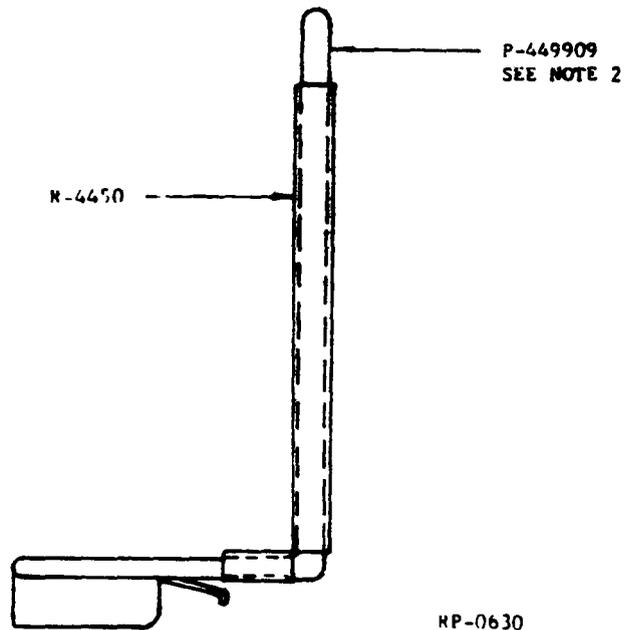

FIG. 7
5.11 When cables turning off the cable rack are in contact or in close proximity to the cable retaining brackets, place an R-4450 PVC Insulator on the cable retaining bracket as shown in Figure 7.